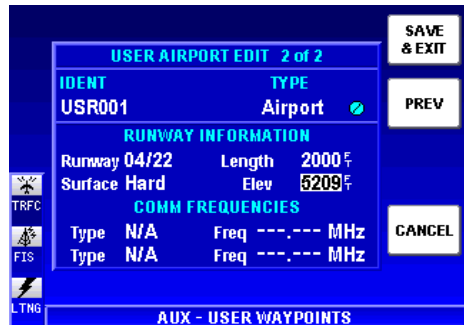

Figure 1-87
7. Use the Joystick to place the cursor in the runway **Length** field. Use the Rotary Knob to select the desired runway length. A value from 0 to 20,000 feet can be entered. Note that 2000 ft. has been entered in Figure 1-87.
8. Use the Joystick to place the cursor in the runway elevation (**Elev**) field. Use the Rotary Knob to select the desired runway elevation. A value from -2000 to 30,000 feet can be entered. See Figure 1-87.